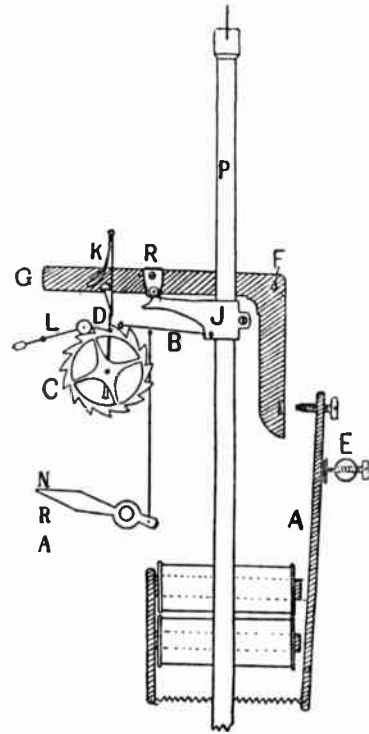

Fig. 3.—SWITCH MOVEMENT OF A SYNCHRONOME ELECTRIC CLOCK.
Fig. 3) centred at F and normally supported on the spring catch K. Once every half-minute the lever is let down (in the act of giving an impulse to the pendulum P) upon (2) the armature A. Current from any available source then passes through the series circuit of dials and the magnet, which attracts the armature A and throws up the lever G on to its catch again.